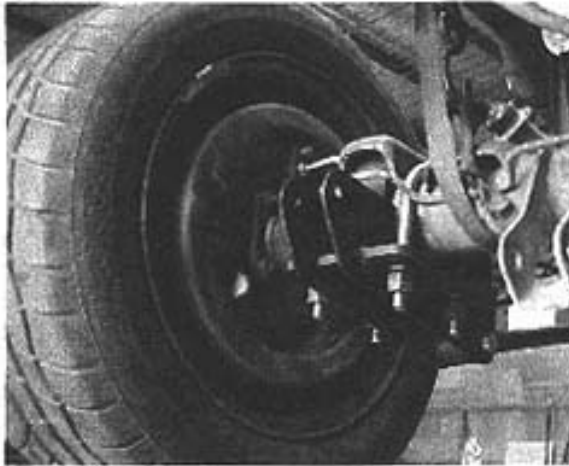

Figure 3
9. Install the rear 4-link brackets on the axle as shown in Figure 3 with the supplied U-bolts, black $\frac{9}{16}$ " washers and black $\frac{9}{16}$ " nuts. Torque U-bolt nuts to 120 lbs.